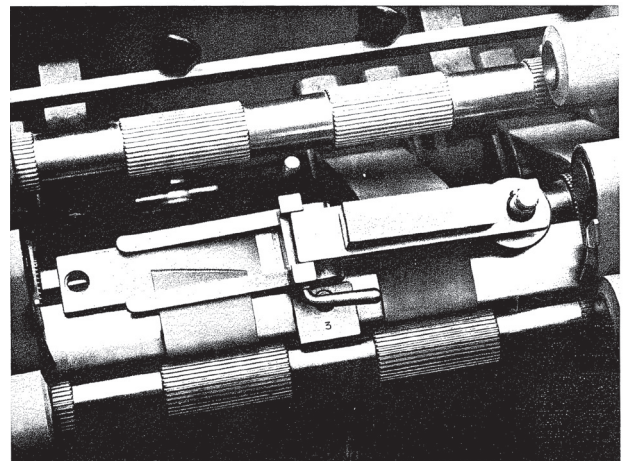

Fig. 5
4. Pass the free end of the apron round the apron drive roller, insert the press, adjust, and retain with lever  $E_2$  (Fig. 5).
5. Swing down the pressure plate G and turn the locking screw D to the stop. Leave under pressure for about 2 minutes (Fig. 5).